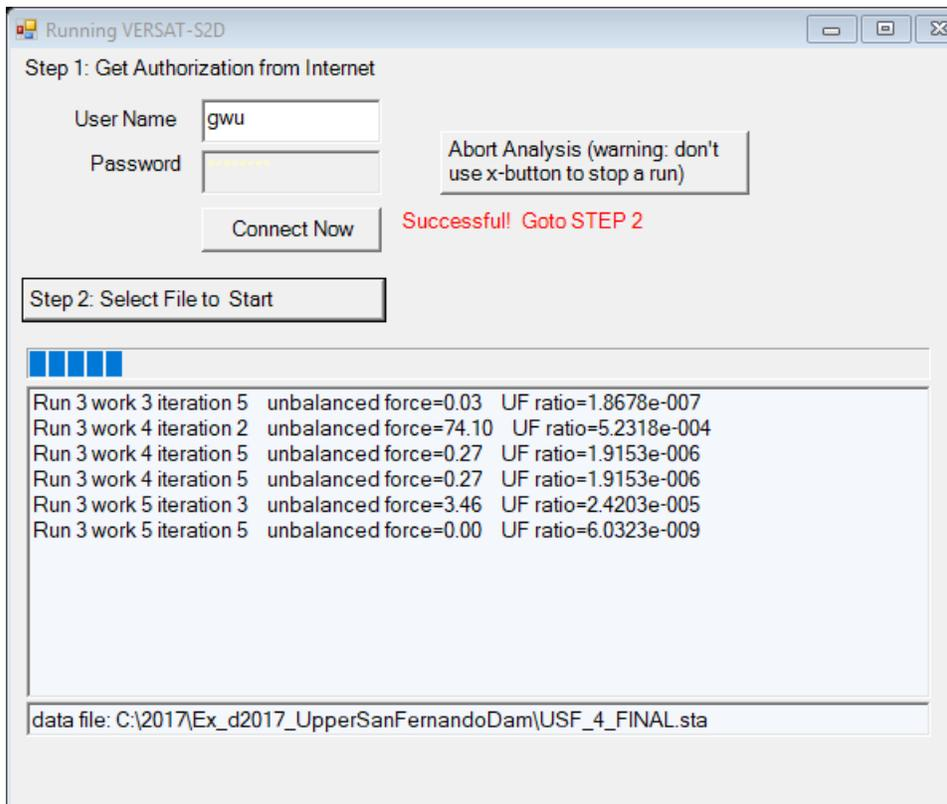

Figure 3.6 A window showing '*Run versat-s2d*' under **RUN**
- Press "*Connect Now*" (see Figure 3.6)